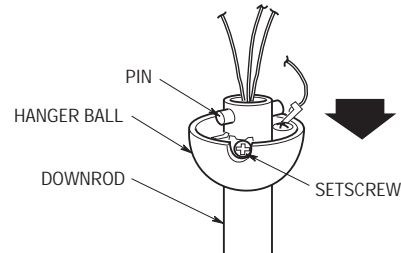

Figure 3
5. Remove the hanger ball by loosening the setscrew in the hanger ball until the ball falls freely down the downrod (Figure 3). Remove the pin from the downrod, then remove the hanger ball. Retain the pin and hanger ball for reinstallation in step 8.